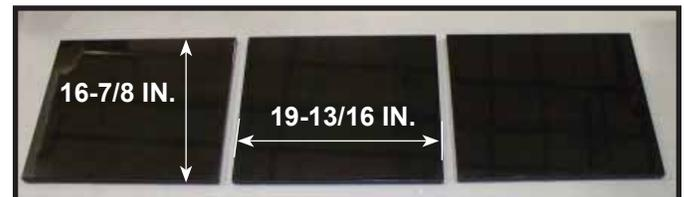

Figure 1. Back Panel Pieces.
- (3) Back panel pieces 19-13/16 inches wide x 16-7/8 inches tall. See Figure 1.